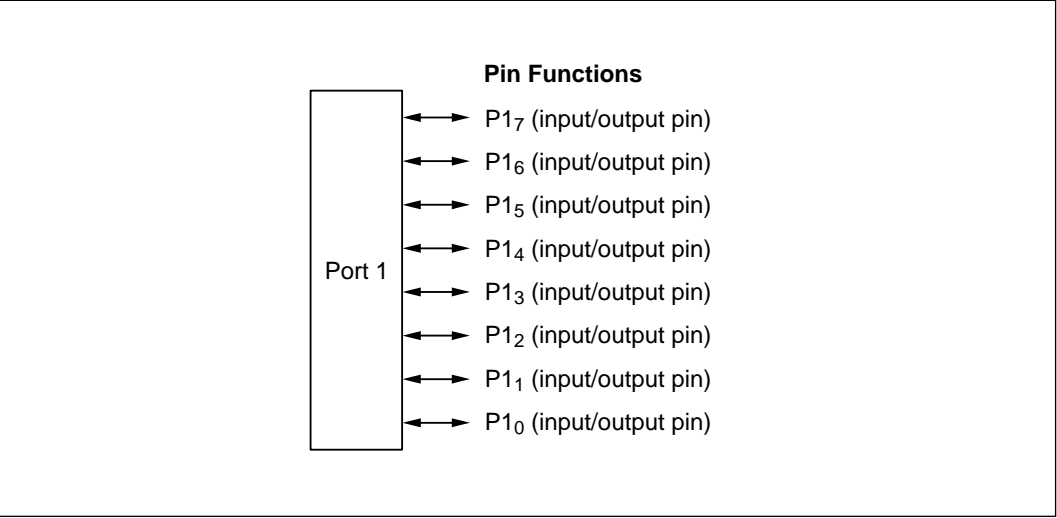

Figure 10-4 Pin Functions in Mode 7
(2) Pin Functions in Single-Chip Mode (Mode 7): Port 1 consists of general-purpose input/output pins. Input or output can be selected separately for each pin. A pin becomes an output pin if the corresponding P1DDR bit is set to 1 and an input pin if this bit is cleared to 0. Figure 10-4 shows the pin functions in mode 7.